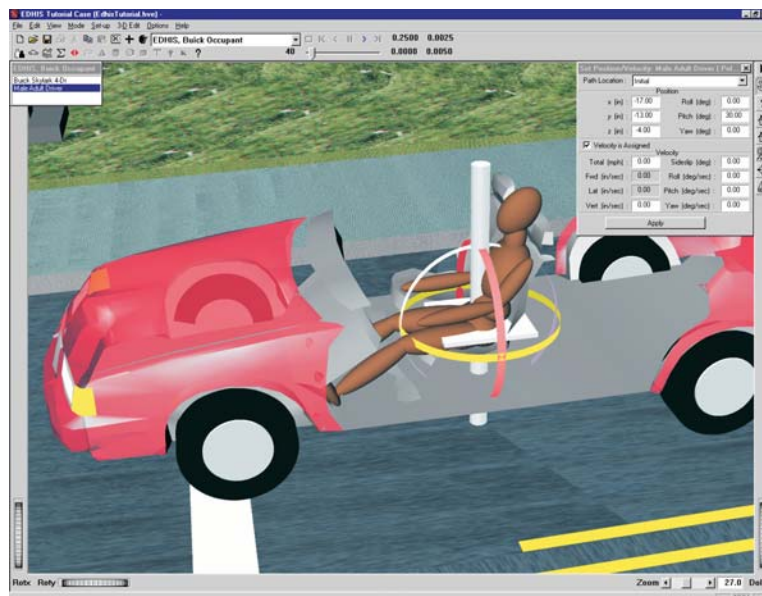

Figure 5-14 Human manipulators used for positioning the human.
- Select *Male Adult Driver* from the Event Humans & Vehicles list, then choose *Position/Velocity* from the Set-up menu. The occupant is displayed at the vehicle-fixed origin. A set of manipulators is attached to the human to allow us to position him in the seat (refer to Figure 5-14).